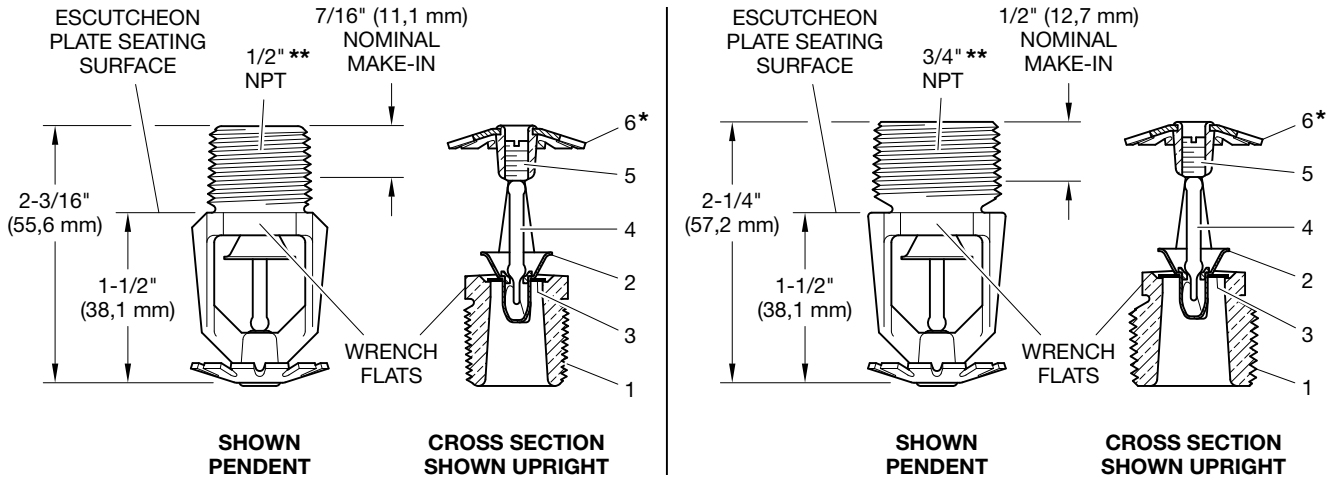

FIGURE 1
Step 2. Tighten the sprinkler into the sprinkler fitting using only the W-Type 6 Sprinkler Wrench (See. Figure 2). With reference to Figure 1, the W-Type 6 Sprinkler Wrench is to be applied to the Wrench Flats.